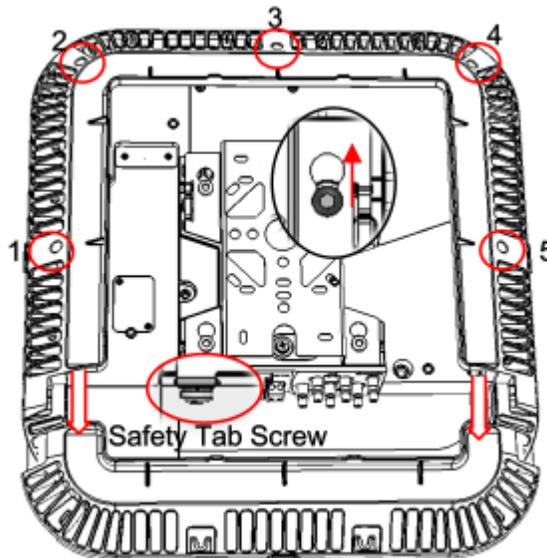

Figure 6-15. Removing RAU Enclosure Cover
1. Referring to Figure 6-15, remove RAU enclosure cover:
- C. Unscrew (5) screws securing the RAU enclosure cover and remove cover..